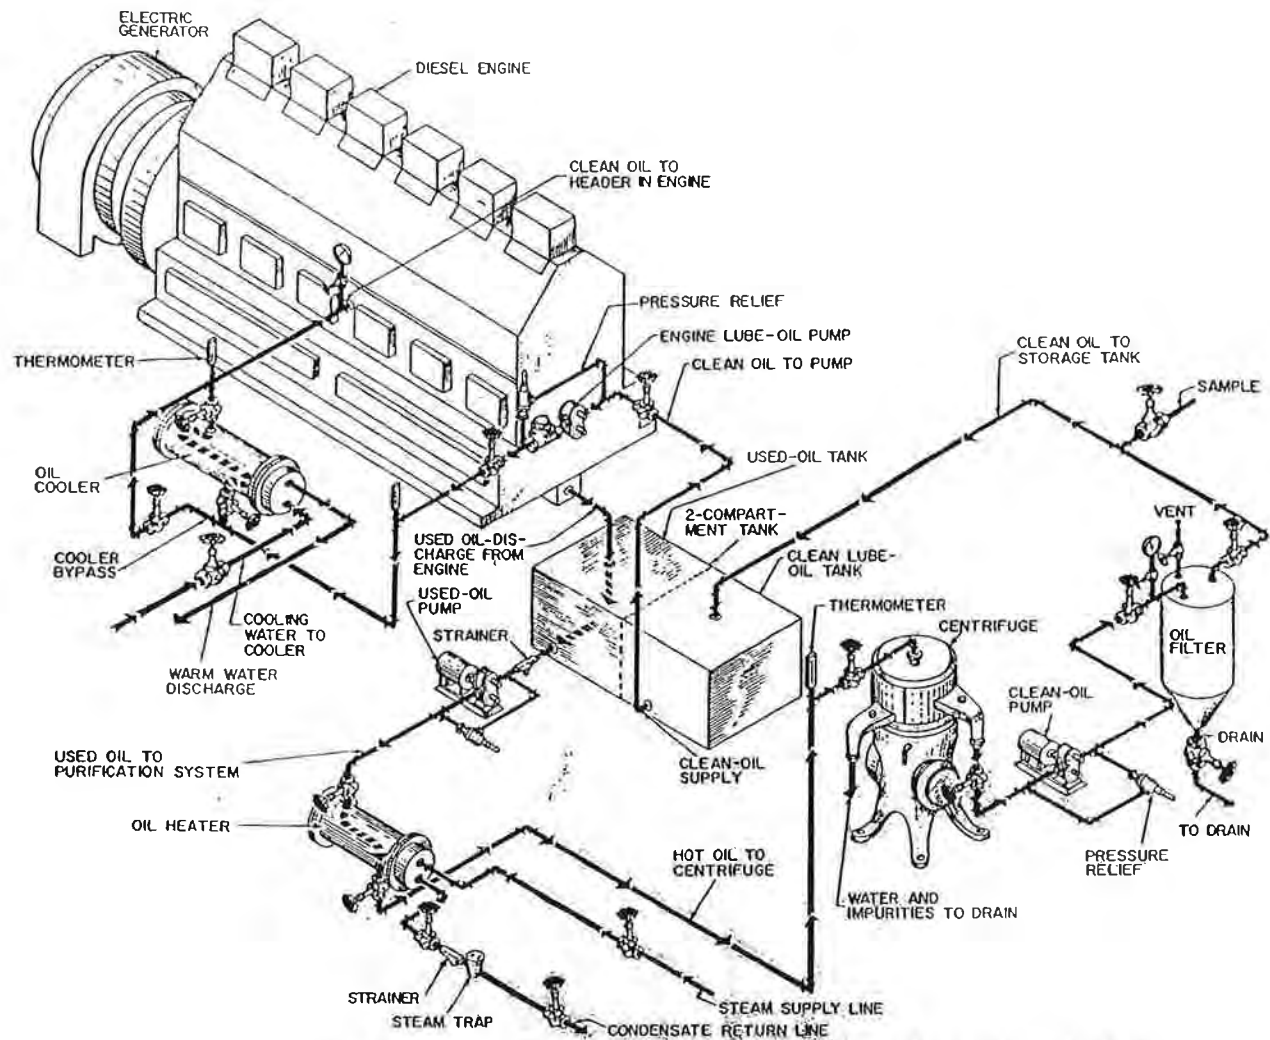

Fig. 1-6. Piping network used in the lubrication-oil purification system of a diesel engine.
1.53 Figure 1-6 shows a piping system used to purify the lubrication oil of a large diesel engine. Although it seems more complicated than the system used in your automobile engine, the principle is exactly the same. That is, dirty oil is cleaned for recirculation to the engine.